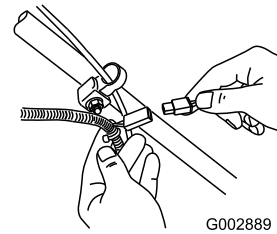

Figure 28
1. Connect the charger to the mower wire harness located below the ignition key (Figure 28).